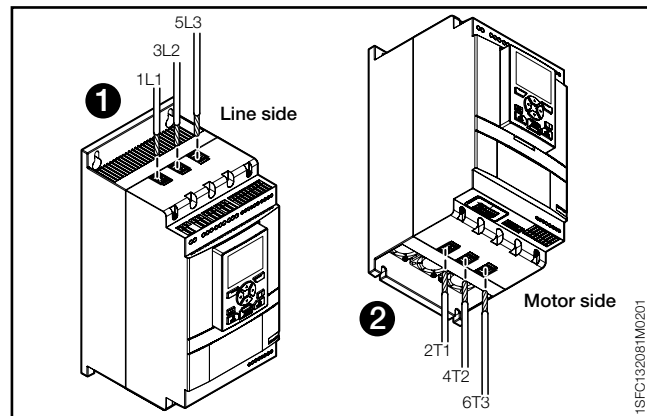
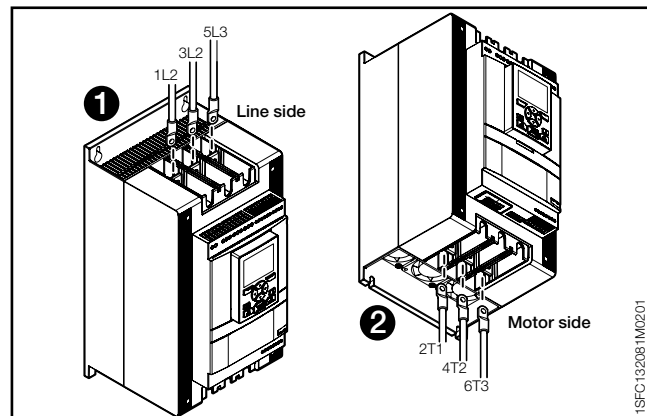

Figure 2.2
Figure 2.3
2. Connect the main circuit: terminals 1L1 - 3L2 - 5L3 to the line side **①**, and terminals 2T1 - 4T2 - 6T3 to the motor side **②**, see **Figure 2.2**. Use wire connection for PSTX30...105, see **Figure 2.2** and terminal connection for PSTX142...570, see **Figure 2.3**.
3. Connect the line side to terminals 1L1, 3L2, 5L3. see **①** and **Figure 2.2**. Connect the motor to terminals 2T1, 4T2, 6T3 on the motor side, see **②** **Figure 2.2** and **Figure 2.3**.